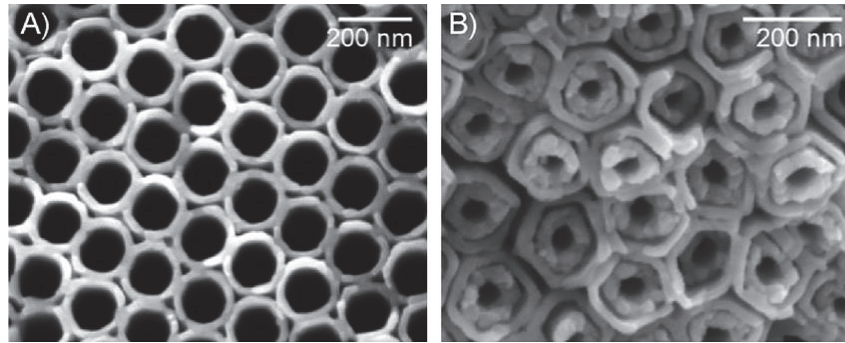

Figure 3: Top view of the titania nanotube arrays.
- (5). Consider a scenario where a research team is investigating the microstructure of a newly developed material as shown in Figure 3 for potential applications in various field. The team decides to employ Scanning Electron Microscopy (SEM) for detailed analysis.
- (ii). Describe the specific microstructural features that SEM can reveal in the material shown in Figure 3.
- (vi). From the observed microstructural features in Figure 3, explain the potential applications.